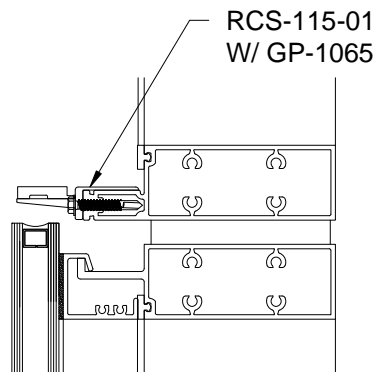

FIGURE 26
- 2.38 Install RCS-115-01 setting chair on upper horizontal using (2) FS-325 fasteners. Install GP-1065 setting block onto chair. FIGURE 26